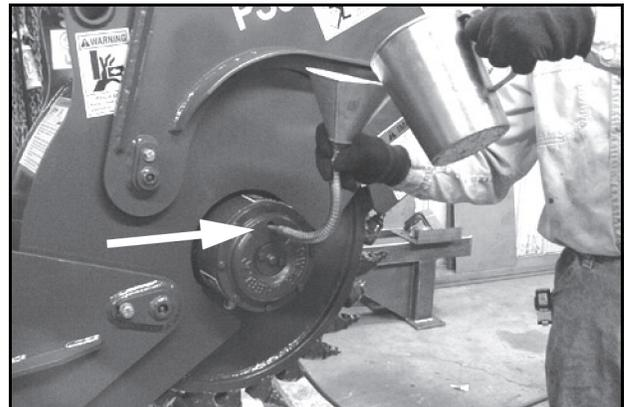

Figure 29.
3. To refill the gearbox rotate the cutting wheel so the drain hole in at the 12 o'clock (highest) position as shown in Figure 29.